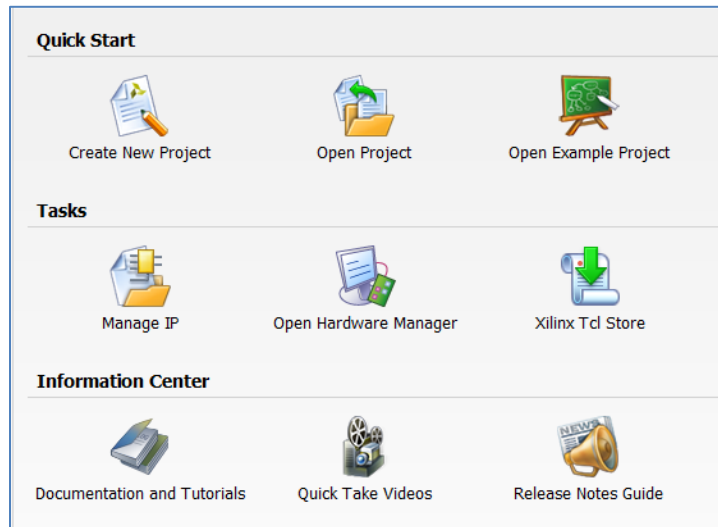

Figure 95: Vivado Quick Start Page
2. From the Quick Start page, select Create **New Project** (FIGURE 95).